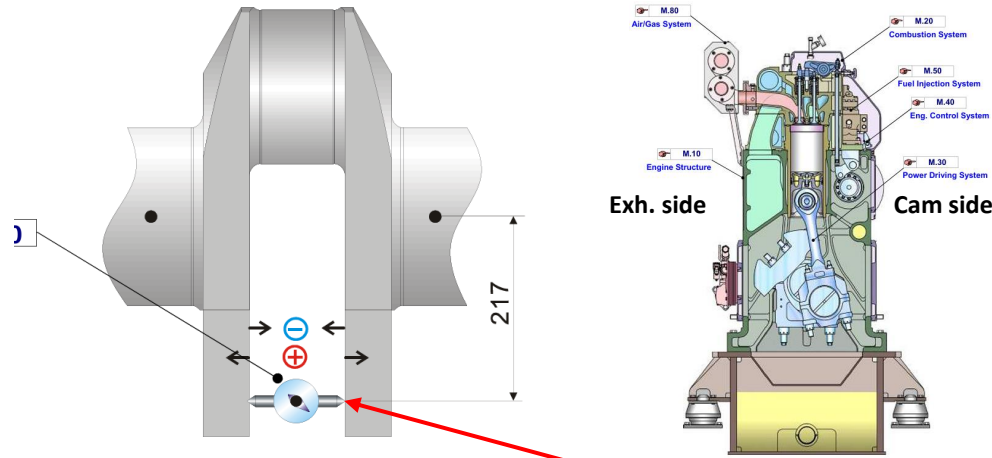

Fig.1 Installation of dial gauge (다이얼 게이지의 설치)
1. Mount dial gauge between two crank webs of last cylinder nearest flywheel as shown in fig.1.